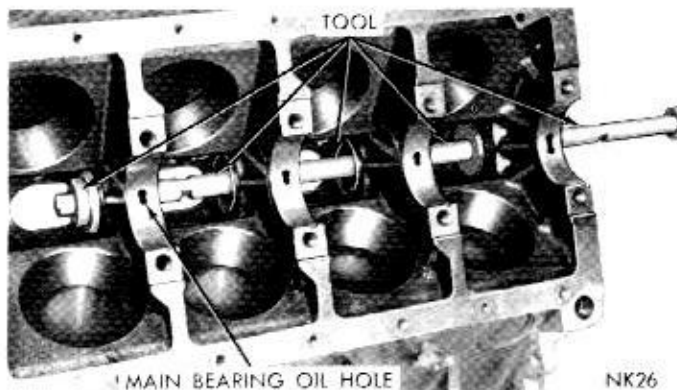

Fig. 30—Removing Camshaft Bearings
- (1) With engine completely disassembled, drive out rear cam bearing welch plug.
- (2) Install proper size adapters and horse shoe washers (part of Tool C-3132A) at back of each bearing shell to be removed and drive out bearing shells, (Fig. 30).